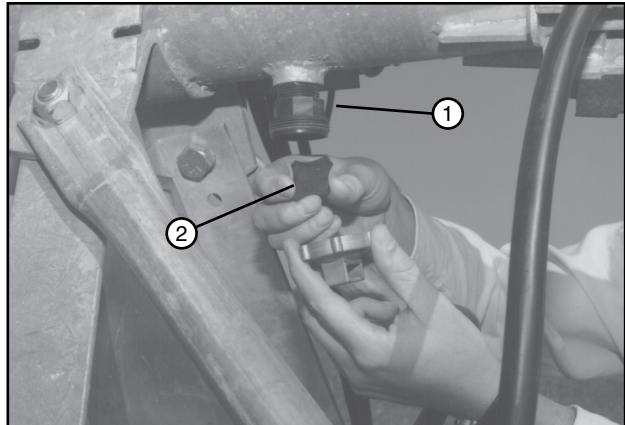

Figure 94-1 1. Pipe Drain
3. Remove the pipe drains at each drive unit tower. Clean sand and foreign particles from these drains. Turn the rubber drain seal over when reinstalling. See figure 94-1.